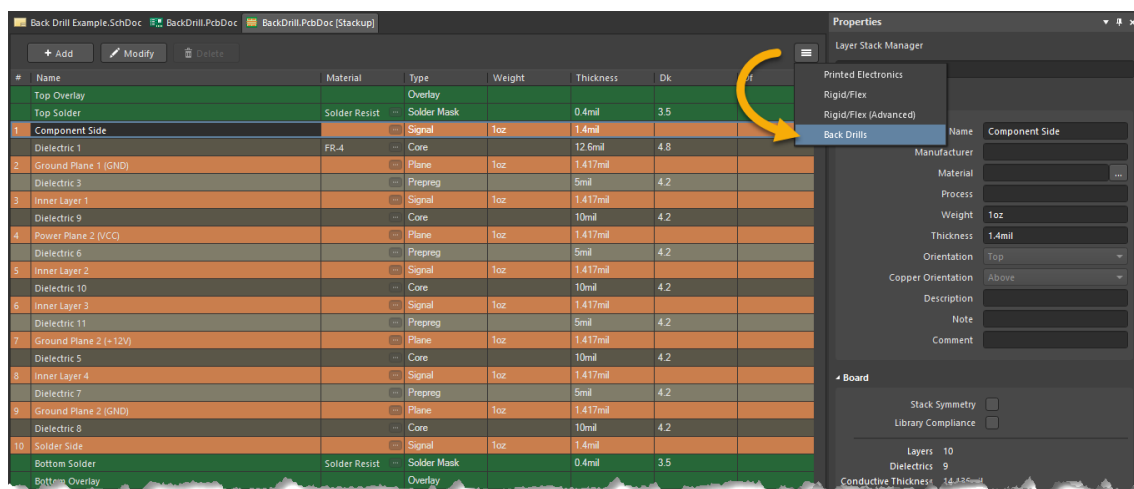

Figure 1. LSM showing 10 Layers and the Back Drills button
- From the *Layer Stack Manager* window, select the **Features Button**, then the **Back Drills** button, Figure 1.